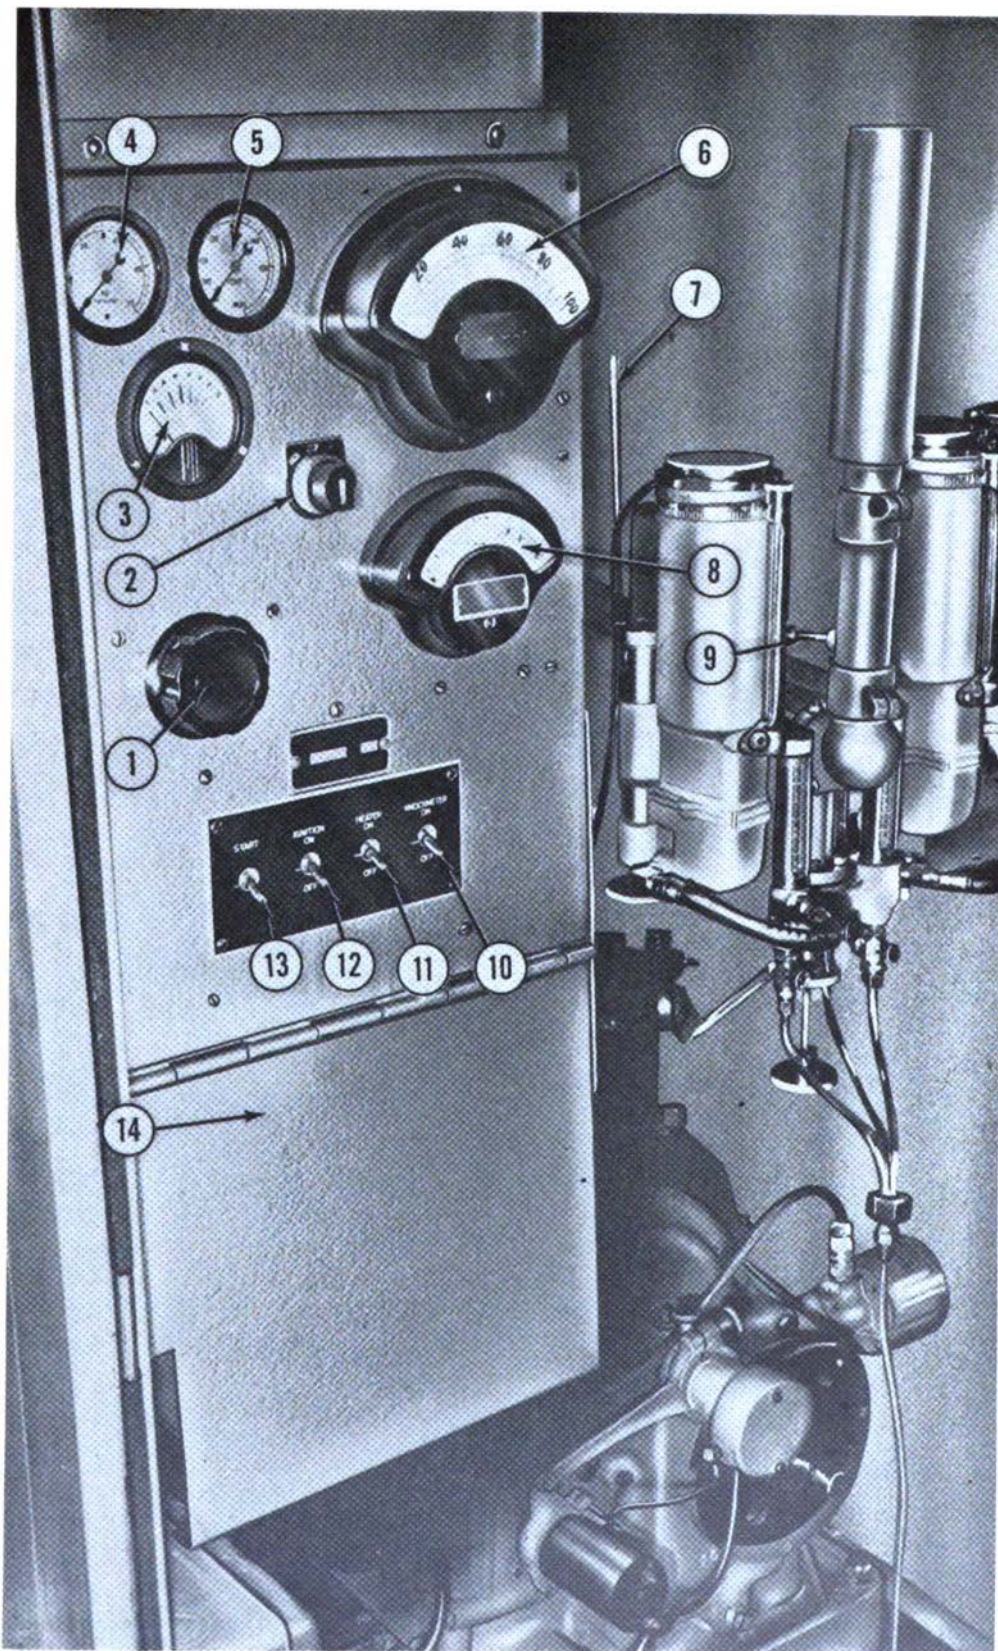

Figure 57. Modified-knock-engine control panel board.
(1) *Panel board.* The panel board (fig. 57), redesigned to be one-half the size of the standard panel board, is mounted on a swivel to permit easy access to its rear. The board is equipped with standard oil-pressure and oil-temperature gages, knock-meter, and control switches for start-